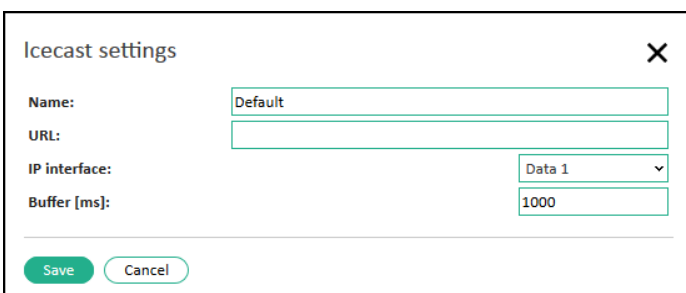

Figure 19: Input Source for coder – Audio over IP (Icecast)
2. Enter the following data in the fields of the configuration of the input source “Icecast settings” in the “Edit” menu (see Figure 19: Input Source for coder – Audio over IP (Icecast) on page 37).